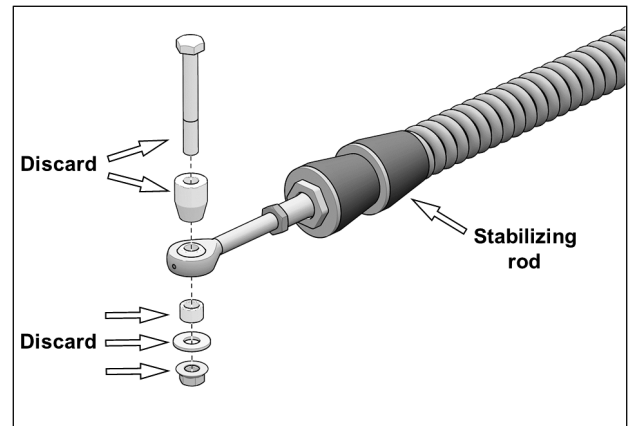

Fig. 3
4. Remove and discard bolts, washers, bushings, and nuts from rear stabilizing rod ends as shown in Fig. 3.